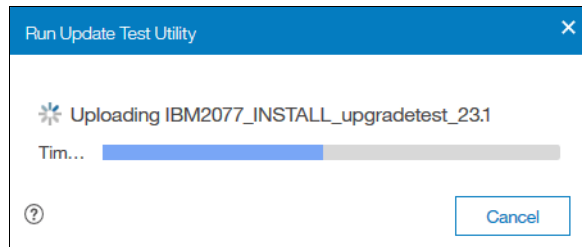

Figure 12-35 File upload
4. Wait for the test utility and update package to upload to the system, as shown in Figure 12-35.